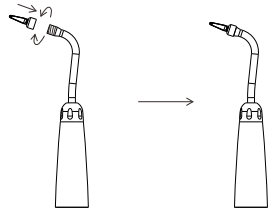

Figure 10 Periodontal sandblasting nozzle
1. Install the periodontal sandblasting head onto the nozzle mounting base. (See Fig. 10)